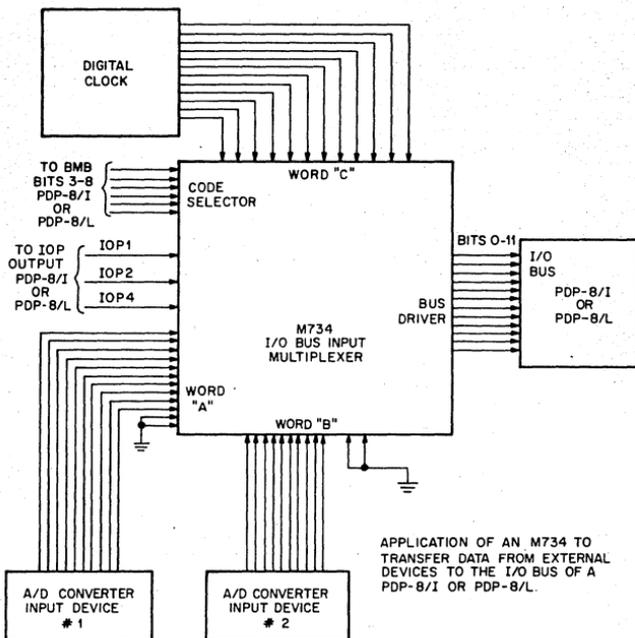

FIGURE 1. APPLICATIONS OF A M734 USED TO TRANSFER DATA FROM EXTERNAL DEVICES TO THE I/O BUS OF A PDP-8/L
**M734 Command Sequences — Figure 1**
As seen in Figure 1, the M734 can be used to transfer data from three external devices. But in each case the amount of data to be transferred consists of 12 bits or less.
This application describes one method of comparing two binary numbers for equality ( $A = B$ ) and relative magnitude ( $A > B$ ). Figure 1 shows 2 bits of a detector using M113, M117 and M121 modules. A 4-bit section requires sixteen two input NAND gates (1 3/5 M113), five — four input NAND gates (5/6 M117), and four AND/NOR gates (2/3 M121).